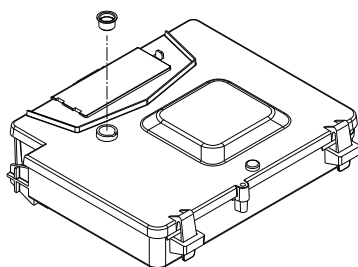

Fig. 35
Lower the controls fascia and remove the cap (A) on the PCB cover (fig. 35).